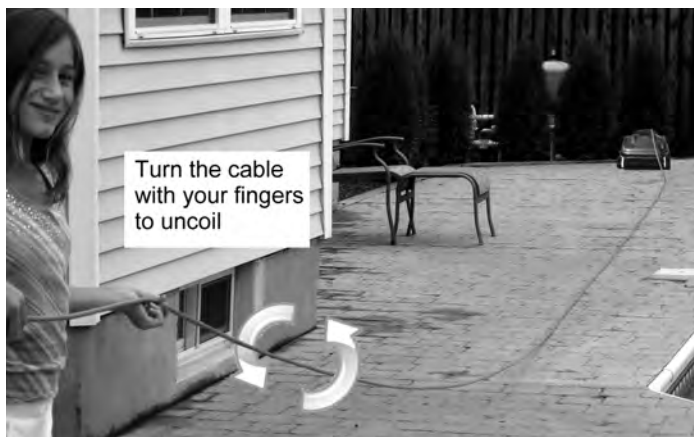

FIGURE 9
- Hold the black collar at the plug end and gently lift the cable off the ground (FIGURE 9)